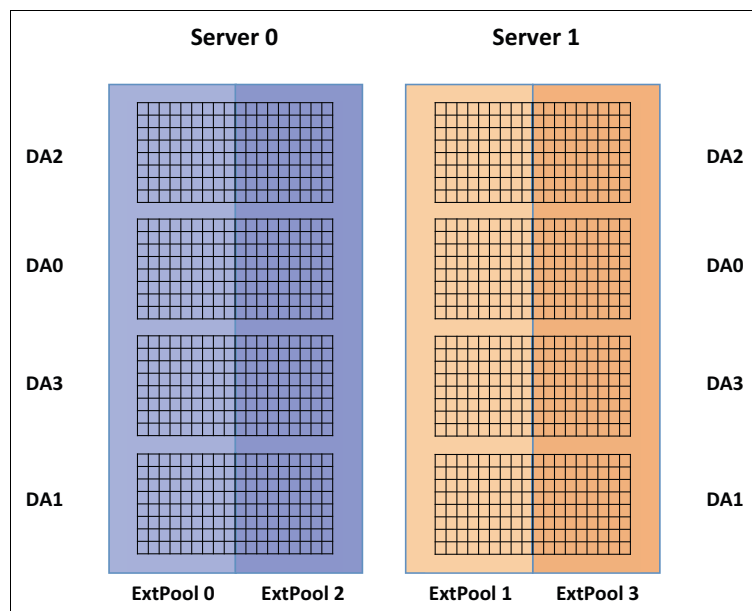

Figure 6-9 Balanced extent pool configuration
A sample configuration is shown in Figure 6-9. The ranks are attached to DS8880 server 0 and server 1 in a half-and-half configuration, which might be used with a mixed count key data (CKD) and fixed-block (FB) workload. Ranks on separate device adapters are combined in a multi-rank extent pool, and volumes are striped across all available ranks in each pool. In all-CKD or all-FB systems, consider the use of a single extent pool for each server.